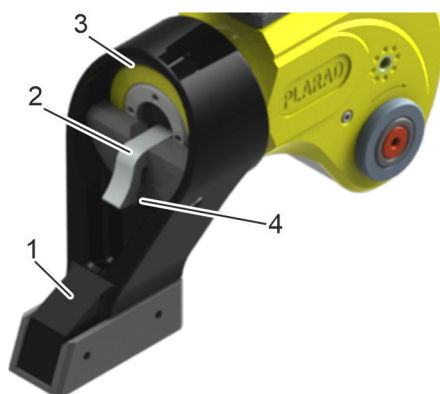

Fig. 15: Safety lock
1. Slot the reaction arm (Fig. 15/1) onto the serration (Fig. 15/3) on the torque wrench in the desired position.
2. Keep on pushing the reaction arm until the safety lock (Fig. 15/2) on the torque wrench engages.